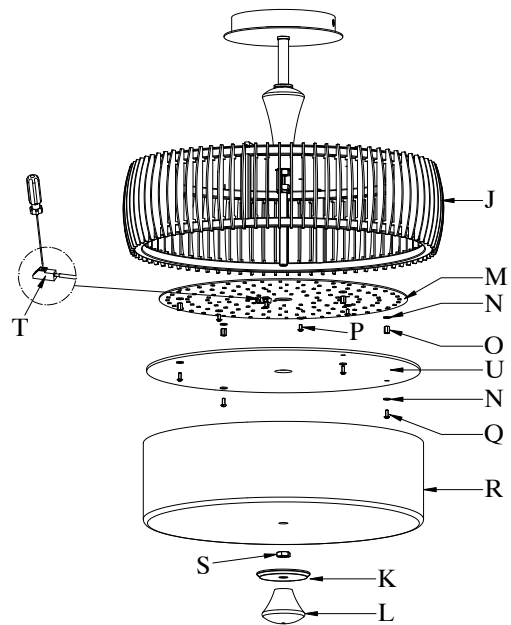

Fig.2
## CONNECTING THE WIRES (Fig.2)
6. Connect the electrical wires as shown in Fig.2, making sure that all wire connectors are secured. If your junction box has a ground wire (green or bare copper), connect fixture's ground wire to it. Otherwise, connect the fixture's ground wire directly to the mounting plate (A) using the green screw (B) provided.